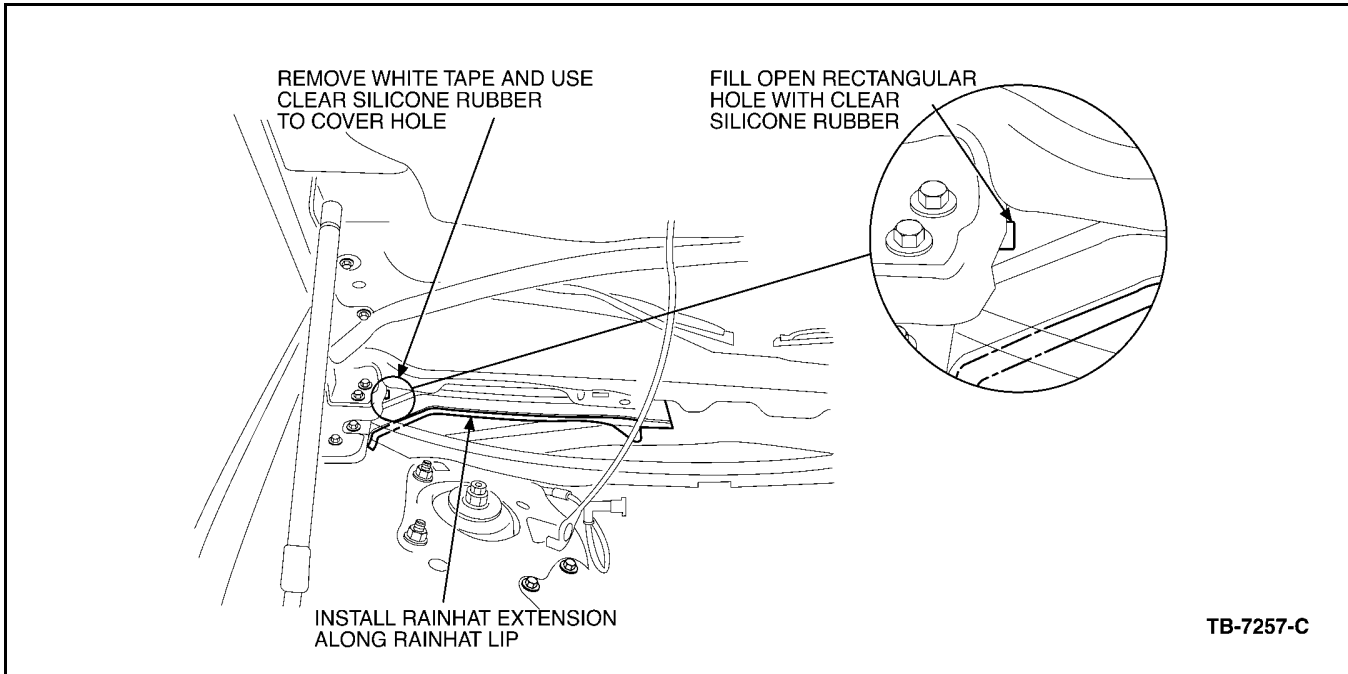
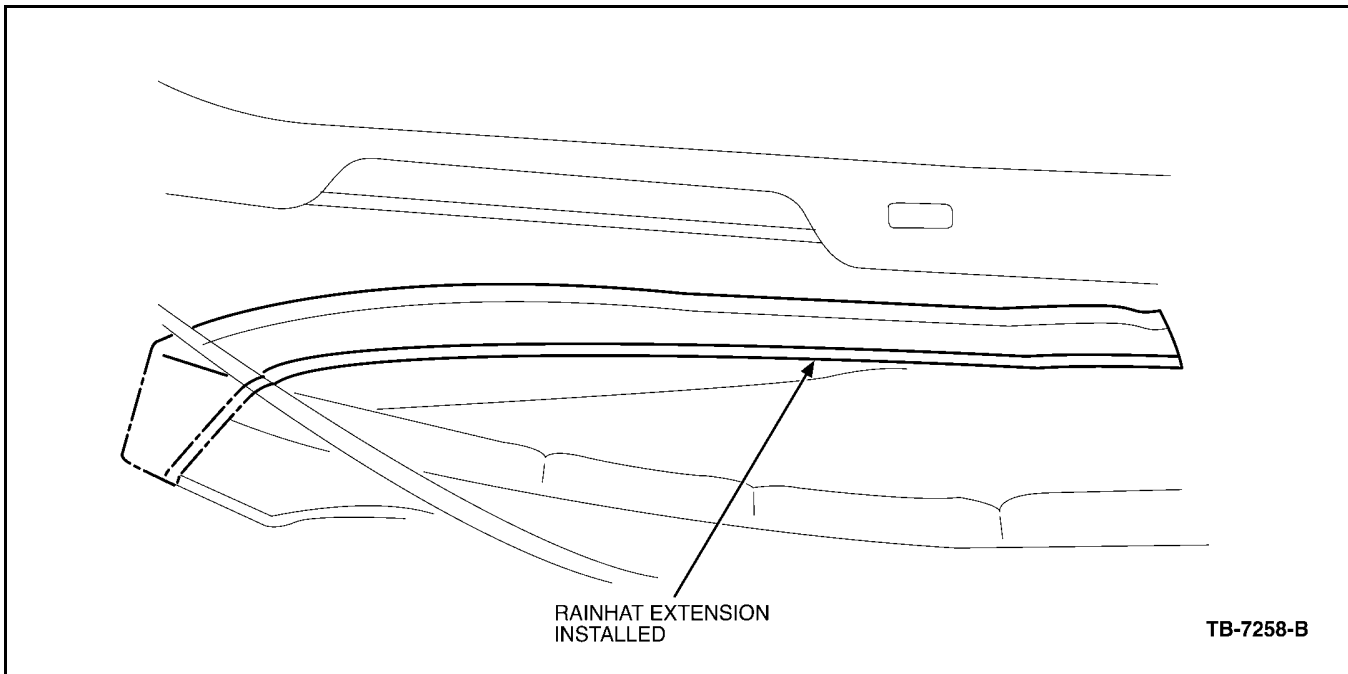

Figure 2 - Article 04-15-3
Figure 3 - Article 04-15-3
5. Locate the tape as shown (Figure 2). Remove the tape and apply Clear Silicone Rubber TA-32 to the small hole as shown (Figure 2).
6. Install the Rain-Hat Extension Seal or Shed Lip Seal 4F1Z-54022A54-AA to the outboard edge of the rain-hat (see Figure 2 for installation). The 10 mm by 10 mm (0.5" by 0.5") cut area, located 25 mm (1") from the end of the seal, will face down and locate at the 90 degree bend of the rain-hat on the fender side (Figure 3).